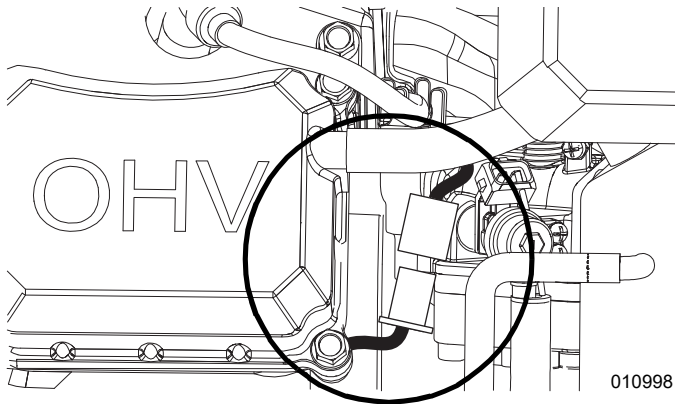

Figure 3-28. Cylinder Head Sensor Connector
- b. If the resistance of each wire is greater than 0.3 ohms, or if the wire is open (OL), or if the wire is shorted to ground, replace the wire harness.
4. See **Figure 3-28**. Disconnect the cylinder head temperature sensor. Measure the resistance of the sensor between the YE terminal and the GN/YE terminal, and measure the resistance of the sensor pins to ground.